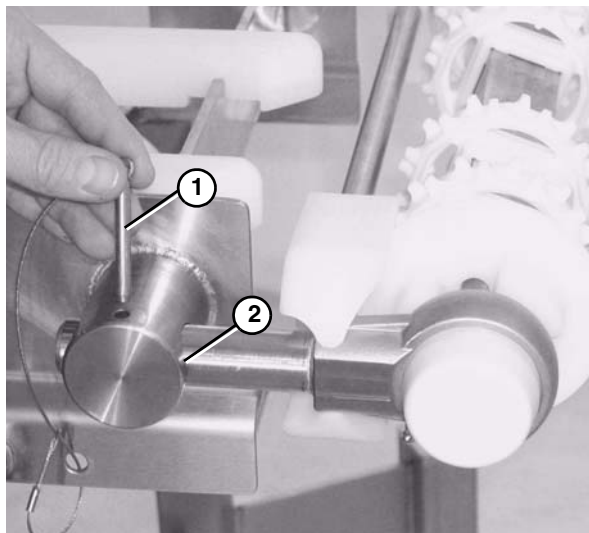

Figure 55
1. Remove both pull pins (Figure 55, item 1) on the tension end of the conveyor.
2. Extend the idler tail to the next groove (Figure 55, item 2) on the bearing shaft.
- Remove the pull pins from take up blocks (**Figure 55**).